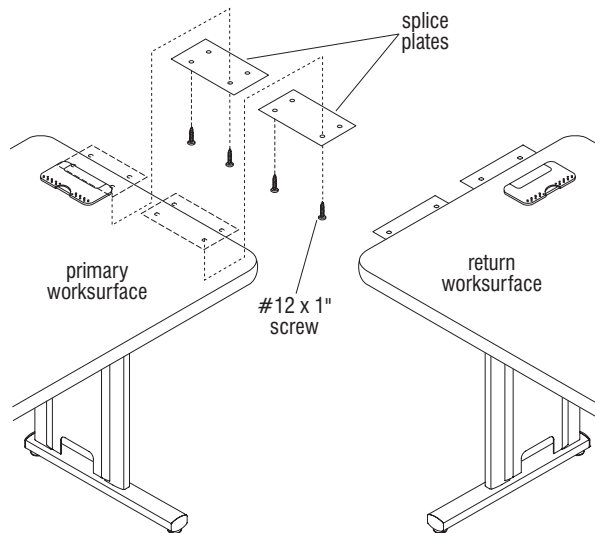

Figure 1
1. Attach two-splice plates to the pre-drilled mounting holes under the primary worksurface with four #12 x 1" screws, two screws per splice plate. Repeat the procedure for splice plates to the return worksurface (Figure 1).